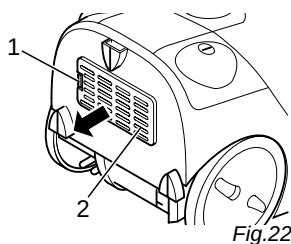

Fig.22
2. Open the blow-out filter cover (Fig. 22/2). To do this, press the lock (Fig. 22/1) and lift out the blow-out filter cover towards the back.